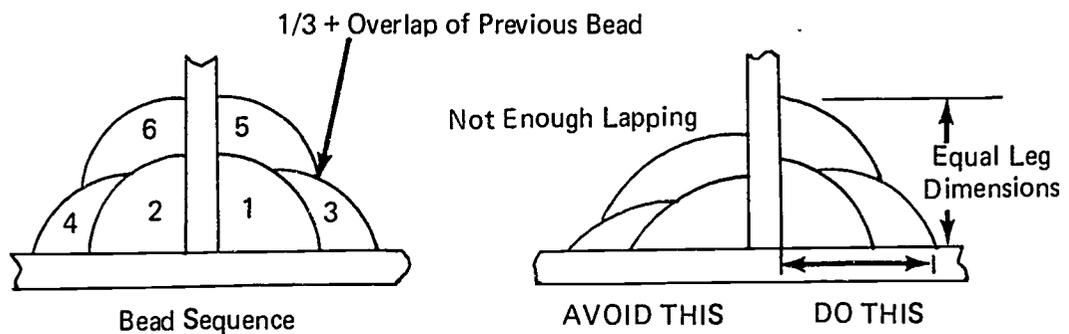

FIGURE 5
- I. Overlap all beads one-third (Figure 5)
(NOTE: Remember to alternate beads to prevent distortion as shown in Figure 5.)